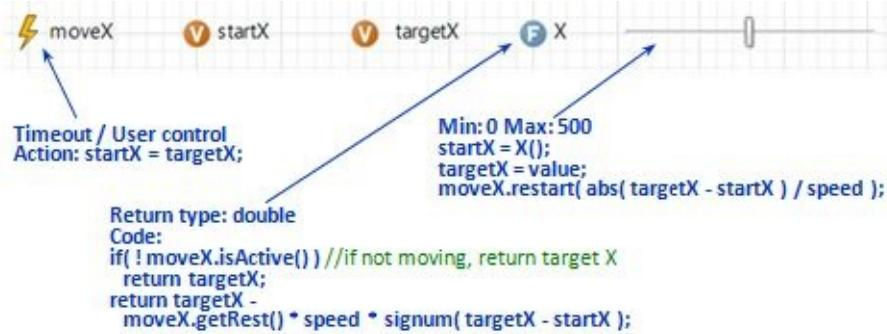

Figure 14.12 The model of crane movement in X dimension
14. Specify the dynamic properties of the circles that represent the hoist and the load, as shown in Figure 14.12. Use the **Projects** tree to select small shapes.